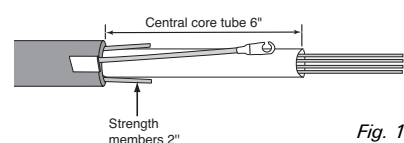

Fig. 10
- Ring cut and remove all but 6" of core tube. (Figure 10)